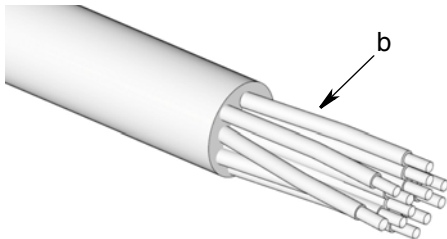

FIG. 5
3. Strip each wire (b) you are using for the installation as shown in FIG. 5.